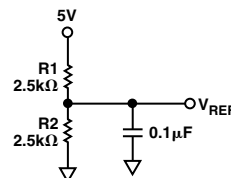

Figure 7. Midsupply Reference
A voltage divider can be created with two equal value resistors (Figure 7). There is a trade-off between the power consumed by the divider and the voltage drop across these resistors due to the positive input bias currents. Selecting 2.5 k $\Omega$  for  $R_1$  and  $R_2$  will create a voltage divider that draws only 1 mA from a 5 V supply. The voltage generated with this topology can vary due to the temperature coefficient (TC) of resistance. Resistors that are closely matched and have a low TC will minimize variations in the voltage reference due to temperature. One should also be sure to use a decoupling capacitor (0.1  $\mu$ F) at the node where  $V_{REF}$  is generated.